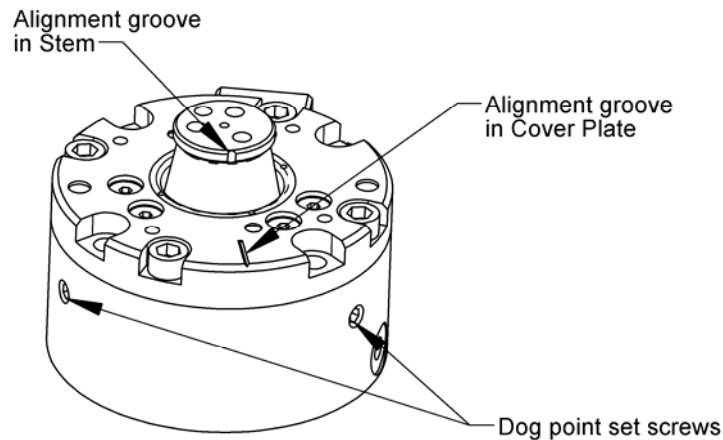

Figure 5.7—Cover Plate and Stem Alignment
4. With the Stem assembly upright, set the Cover Plate assembly onto it. Make certain that the alignment grooves are lined up (see Figure 5.7).
5. Place the Stem and Cover Plate together onto the Body. Make certain that the alignment grooves in the Plate and the Stem are still lined up (see Figure 5.7).
7. Apply Loctite® 222MS to the four (4) socket head cap screws and thread them into the Body. Tighten the screws securely.
2. Remove the two (2) M4 dog point setscrews using an M2.5 hex key (see Figure 5.7). (If unit is equipped with an assist spring, temporarily place the Stem assembly on top of the Piston and push down while removing the setscrews.)